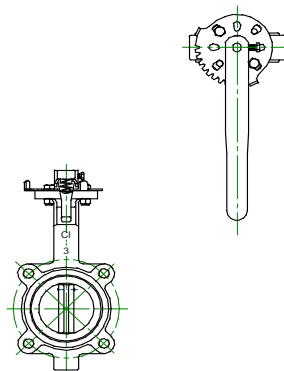

FIGURE 5. NOTCHPLATE INSTALLATION POSITION
- Step 1. First, start by loosely assembling the notch plate on the valve top plate. The notchplate should be installed with the notches in the third quadrant of the valve top plate with the stop tabs at the 6 o'clock and 9 o'clock position. The notchplate should be installed with the stop tabs pointing upward (Figure 5).